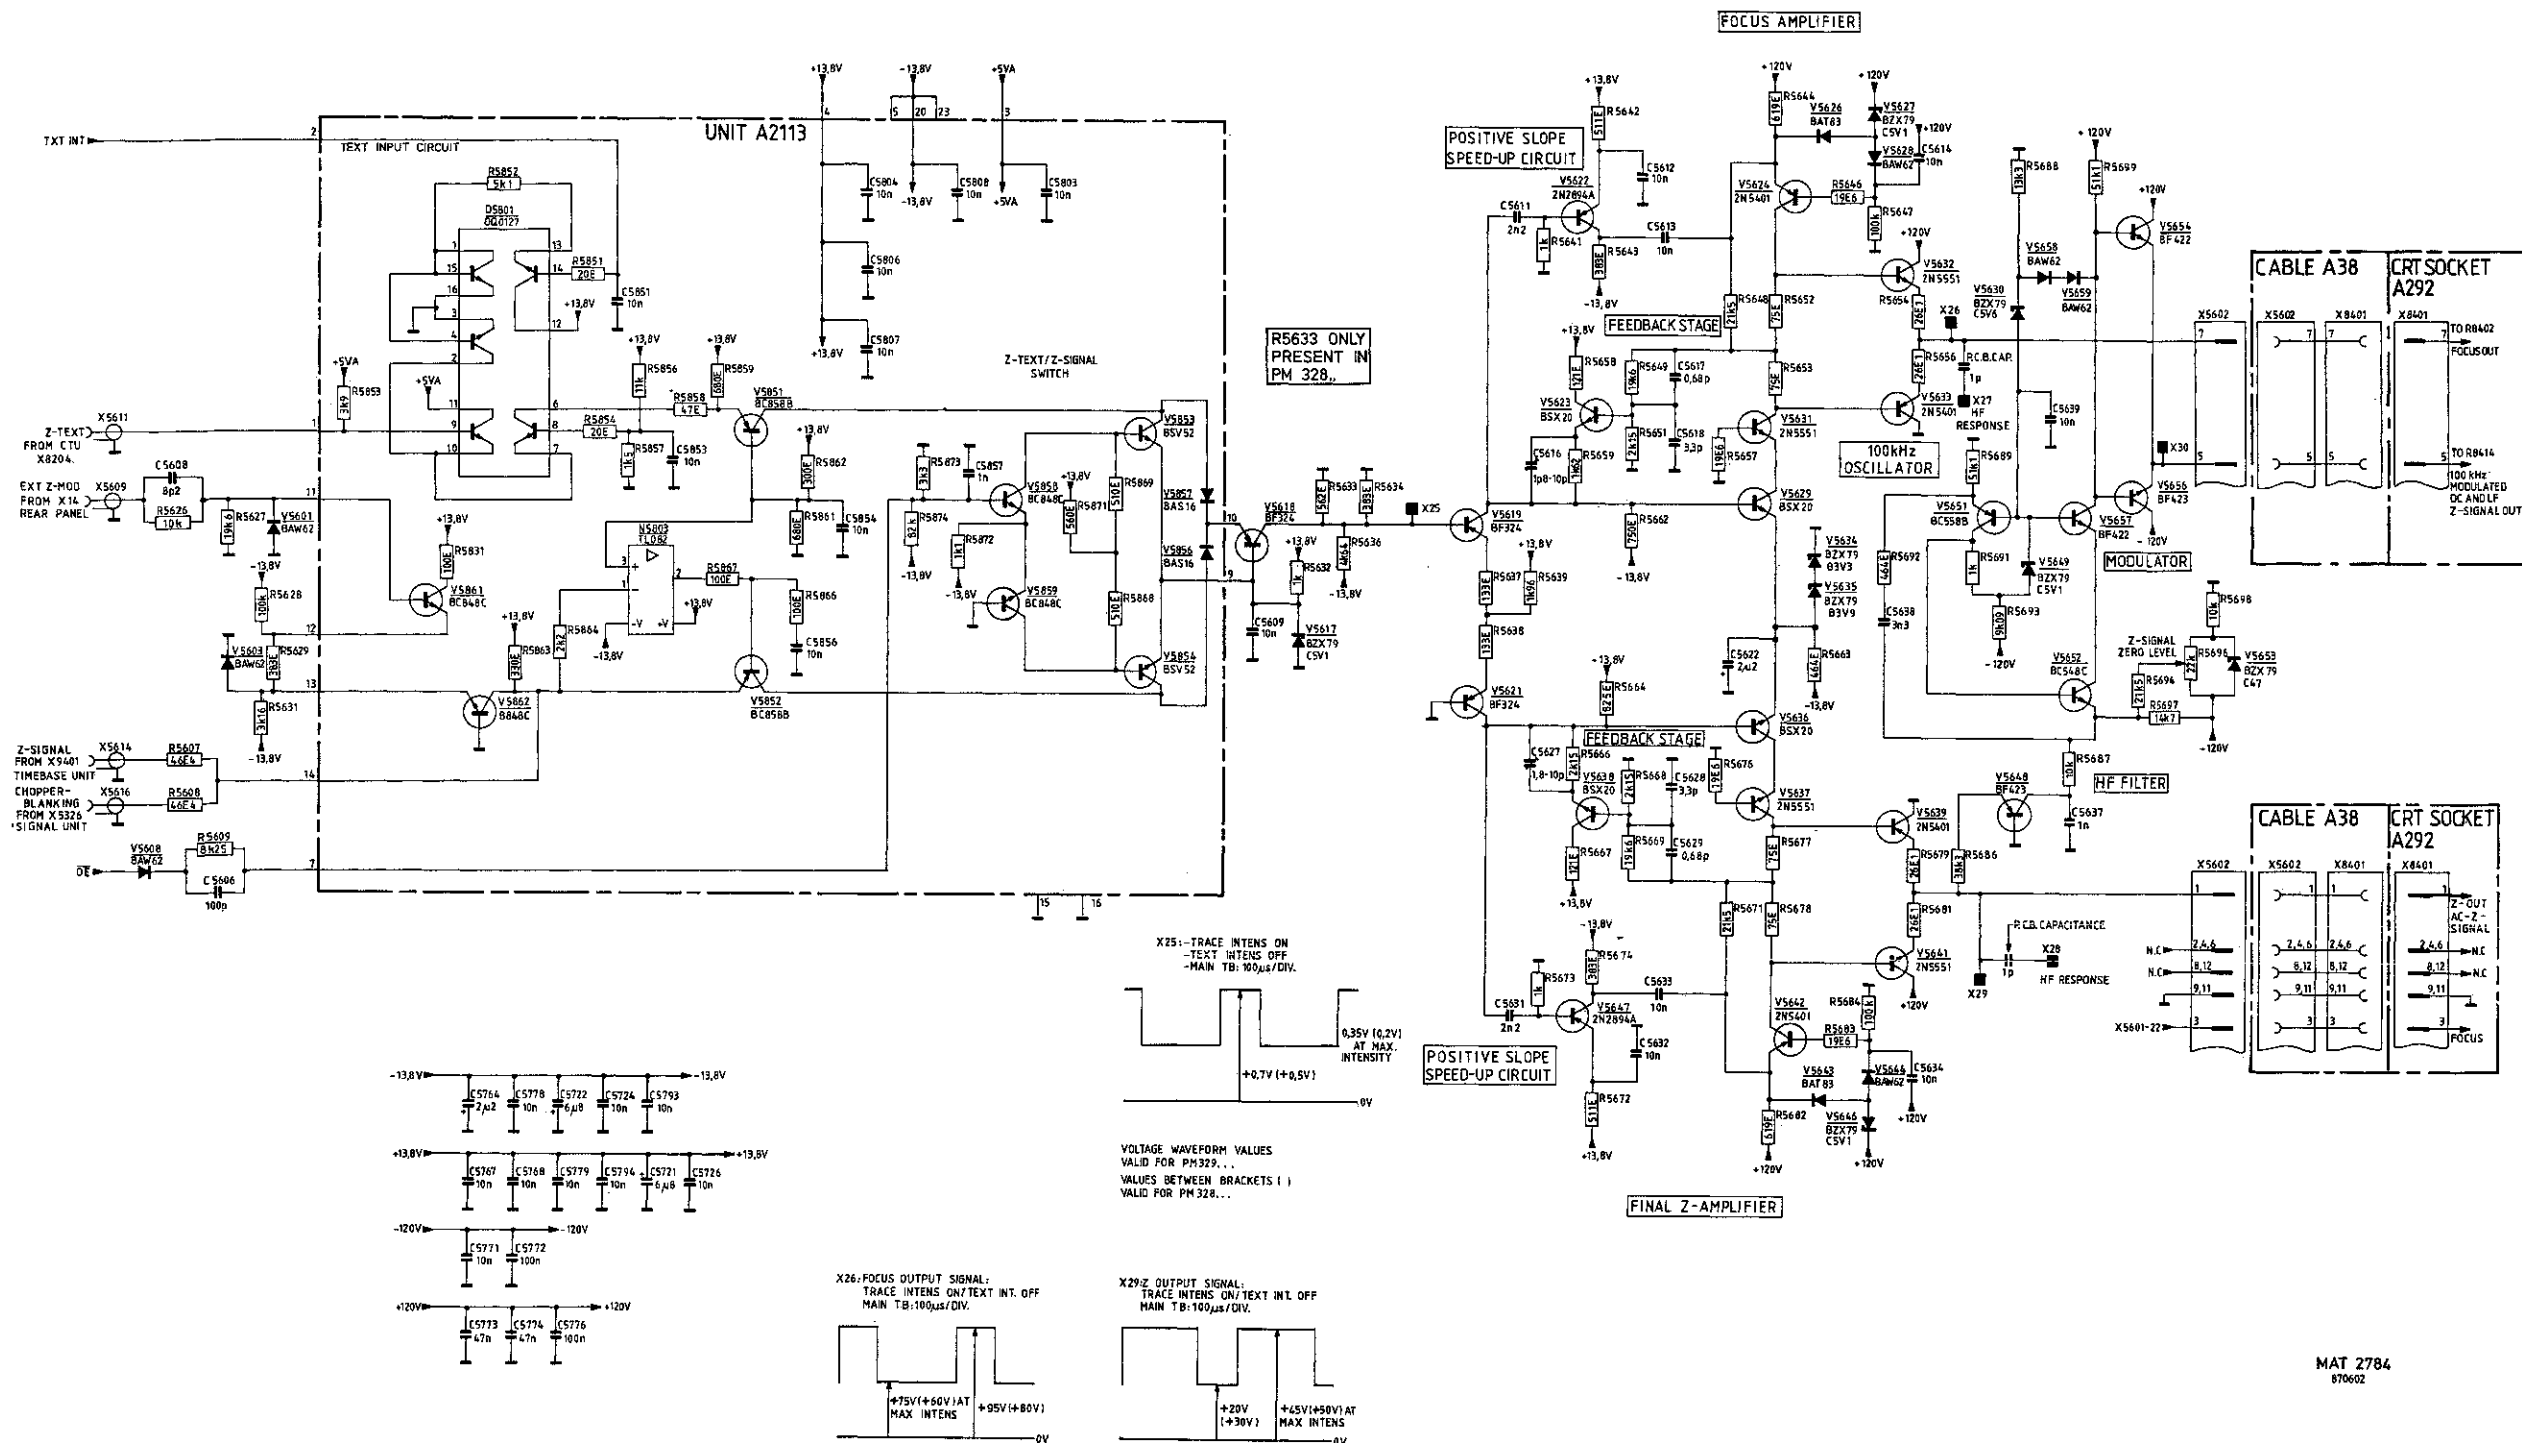

Fig.16.3. Final X/Z amplifier, circuit diagram of intensity and focusing part.
16.2. CIRCUIT DESCRIPTION OF X AMPLIFIER AND CRT TEXT PART (See fig.16.3)